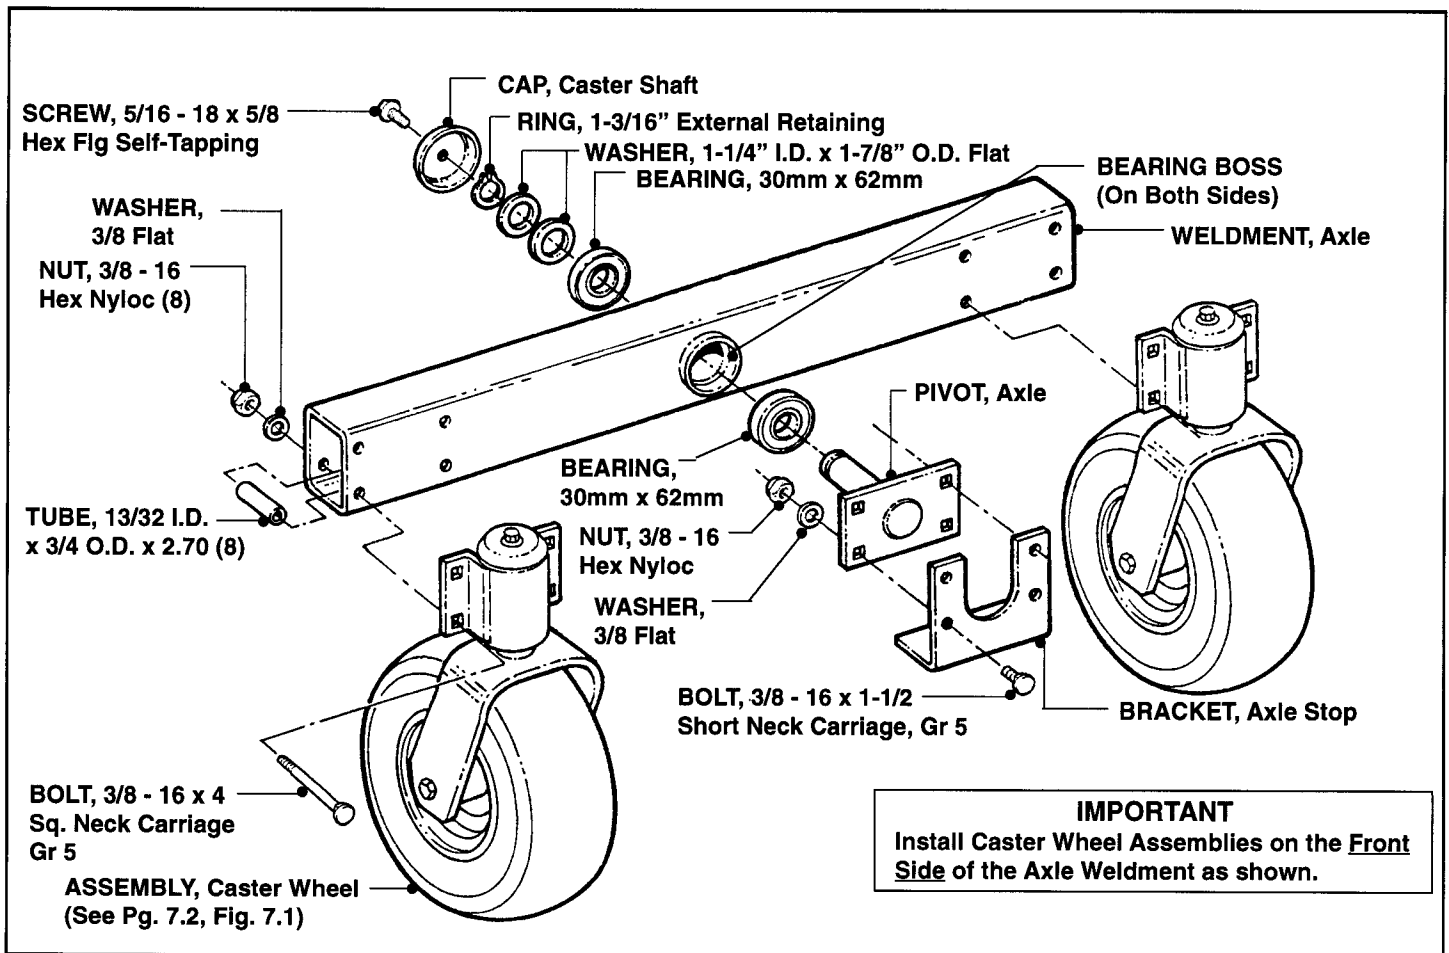

FIGURE 7.2
Components of the Caster Wheel/Rear Axle Assembly are shown in Figure 7.2 on Page 7.3.
1. Remove existing Bearings by driving them to the outside with a Drift Pin. (The Bearing Bosses have a machined seating surface. Bearings cannot be removed by driving them inward). See Figure 7.2.
2. Remove the four (4) 3/8 - 16 Hex Nuts, 3/8" Flat Washers and 3/8 - 16 x 1-1/2 Carriage Bolts from the Axle Pivot and Power Unit Frame. Refer to Figure 7.2.
3. Install new/repaired Axle Pivot to Lower Chassis by inserting the four (4) 3/8 - 16 x 1-1/2 Carriage Bolts from the inside, attaching the Axle Stop Bracket, Axle Pivot, Washers and Nuts. Tighten securely.